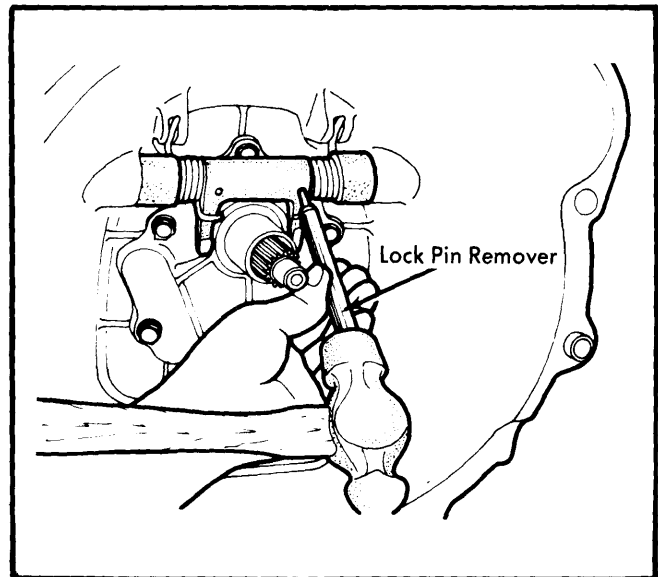

Fig. 2 Using a  $\frac{3}{16}$ " Punch to Remove Shift Arm Spring Pin
- 5) Drive in 2 shift arm springs pins. Face spring pin slots UP. See Fig. 2.